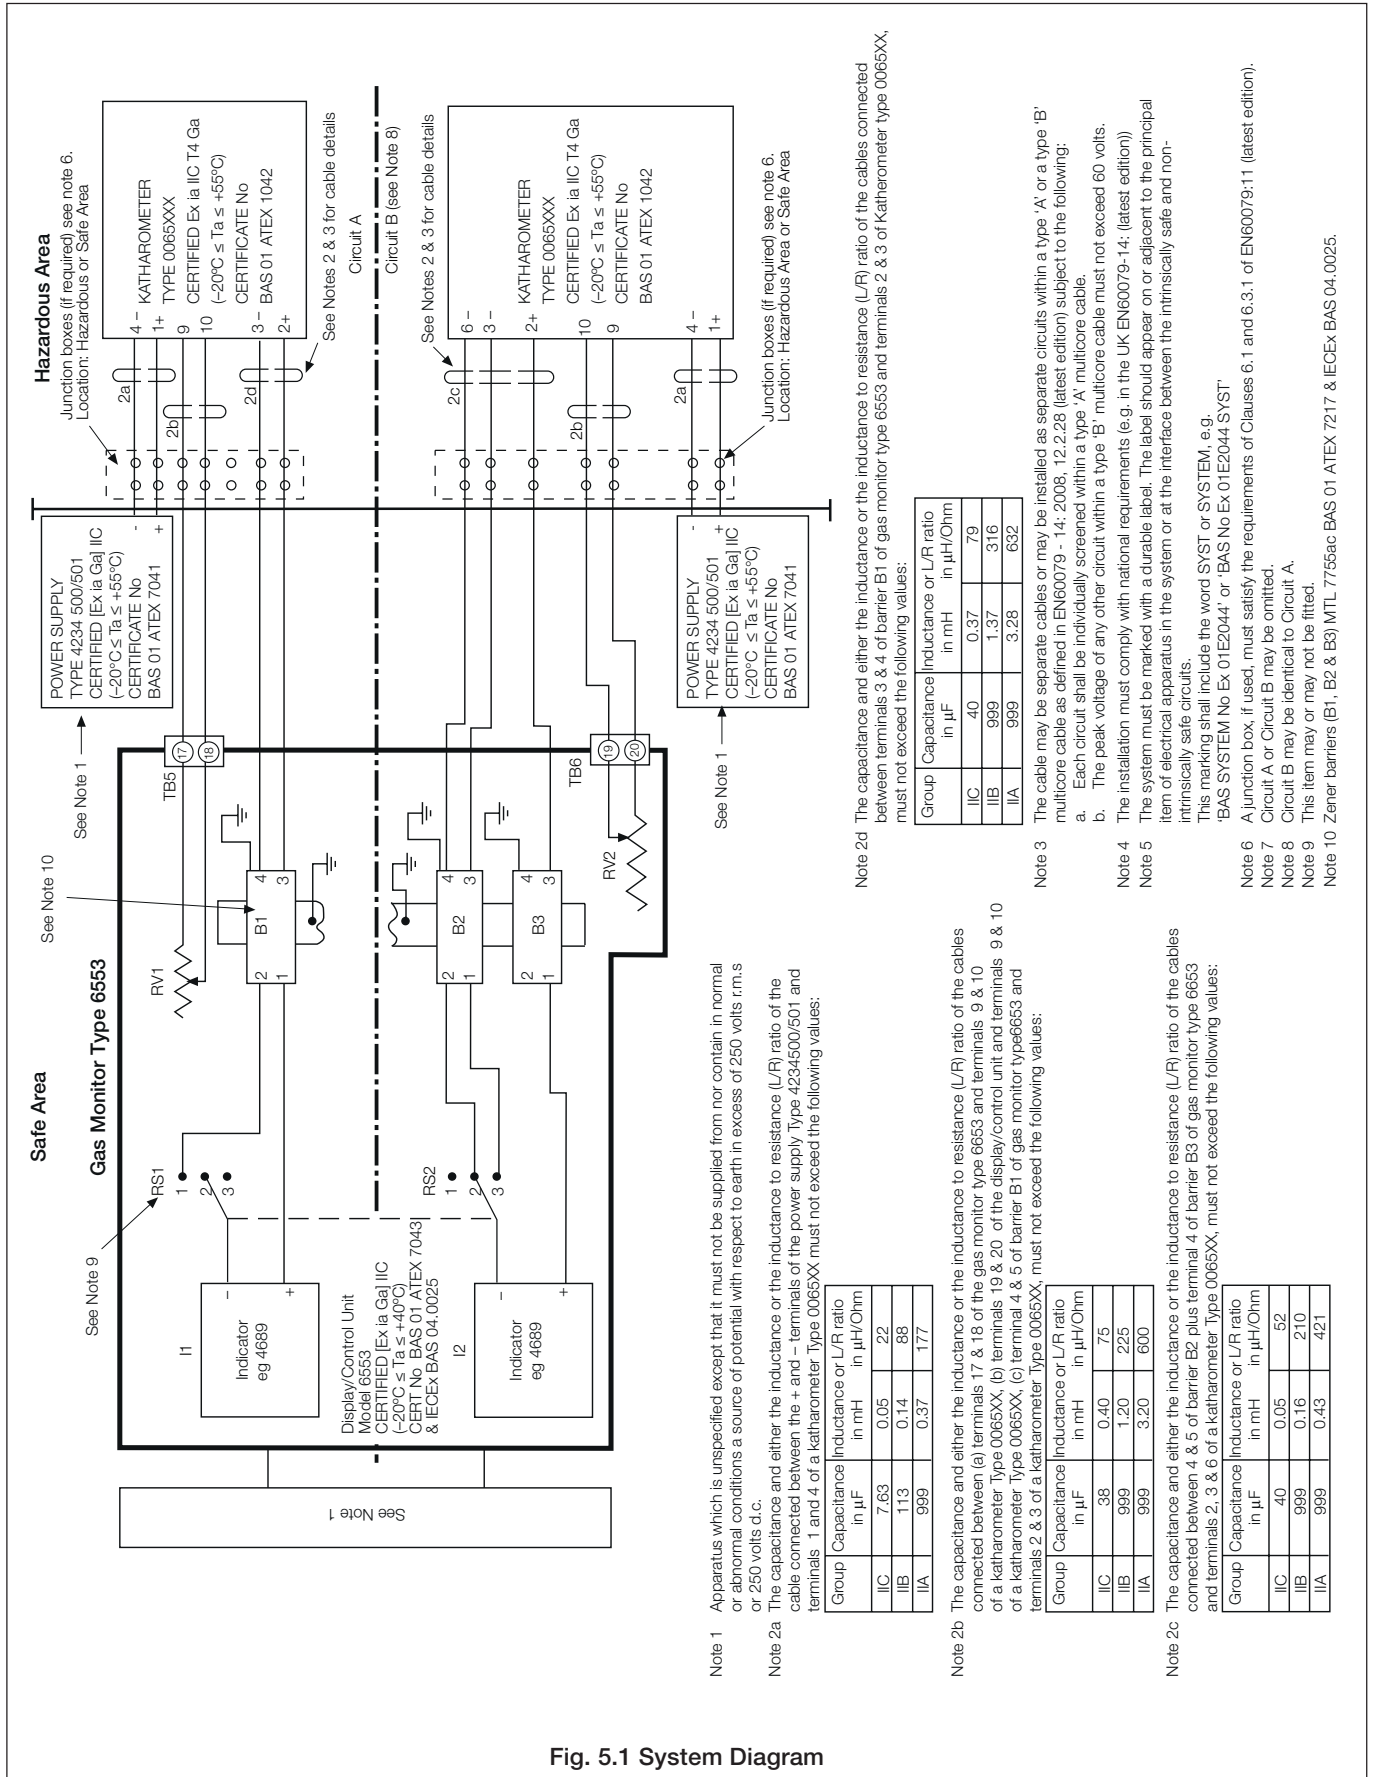

Fig. 5.1 System Diagram
## 5.1 Electrical Interconnections – Fig. 5.1
Fig. 5.1 shows the interconnecting wiring requirements for the AK10x Gas Analyzer system, that must be strictly observed. Details of cable requirements, that must be strictly adhered to, are also given – see Section 5.2.1.
Make electrical connections in accordance with the information given in the wiring diagrams Figs 5.1 and 5.3 and the cable details in Section 5.2.1.
The interconnecting cables between the various units of the gas analysis system are subject to stringent limitations because of the requirements of the intrinsic safety certification. These are listed below and detailed in Fig. 5.1.
All cables from the Katharometer in the hazardous area must have an inductance/resistance ratio not exceeding  $22\mu\text{H}/\Omega$  (for Group IIC gases). Refer also to Fig. 5.1 Note 2a. Also the maximum loop resistance of this interconnecting cable is limited to  $1.5\Omega$ ; this may place a limitation on the length of the total cable run. These wires are indicated by a ▲ in Fig. 5.3.
Katharometer to display unit cables, carrying the output signals through zener barrier units inside the display unit, are subject to a maximum inductance/resistance ratio of  $79\mu\text{H}/\Omega$  (for group IIC gases). Refer also to Fig. 5.1 Note 2d. These wires are indicated by a ▲ in Fig. 5.3.
Katharometer 9 and 10 to 6553 Display Unit terminals TB5 and TB6 cables are subject to a maximum inductance/resistance ratio  $75\mu\text{H}/\Omega$ . Refer also to Fig. 5.1 Note 2b. These wires are indicated by a ▲ in Fig. 5.3.
The choice of wiring cable is restricted by the limitations imposed by the certification parameters. Care must be taken to ensure that the specification of the cable required for interconnection lengths is such that the certification parameter limits are not exceeded – see Fig. 5.1 Notes 2a, b, c & d and also Notes 3 & 4.
- 1) The total Capacitance and Inductance or Inductance to Resistance ratio (L/R) of the cables connecting the katharometer unit to the hazardous area terminals of the display unit (TB2) and power supply unit terminals (TB1) must not exceed the values in Fig. 5.1.